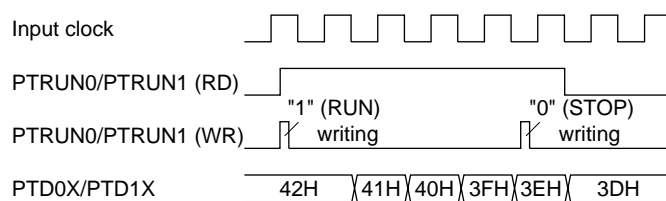

Fig. 7.2.1 Timing chart for RUN/STOP control
- (2) The programmable timer actually enters RUN/STOP status in synchronization with the falling edge of the input clock after writing to the PTRUN0/PTRUN1 register. Consequently, when "0" is written to the PTRUN0/PTRUN1 register, the timer enters STOP status at the point where the counter is decremented (-1). The PTRUN0/PTRUN1 register maintains "1" for reading until the timer actually stops. Figure 7.2.1 shows the timing chart for the RUN/STOP control.